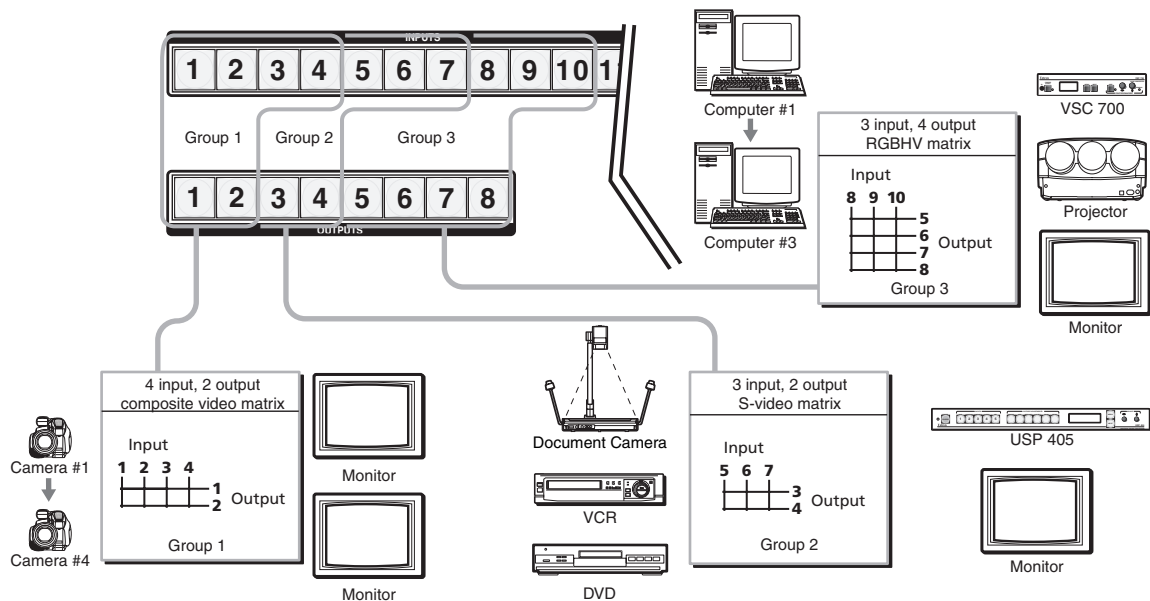

Figure 3-27 — I/O grouping of incompatible video formats
- Segregating specific video formats to prevent an input in one video format from being inadvertently applied to an output device that supports another video format (figure 3-27)